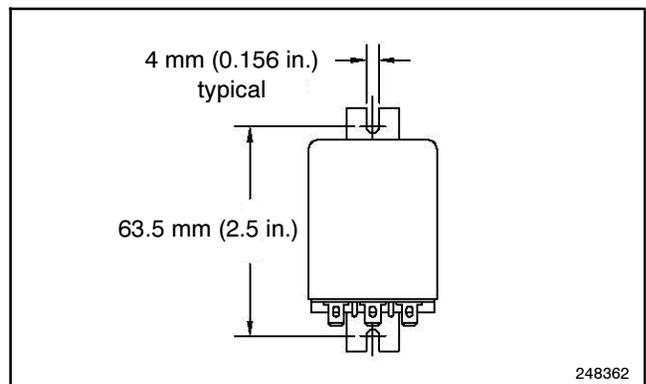

Figure 3 Run Relay Mounting Details and Position
3.3 Mark positions for drilling two holes 63.5 mm (2.5 in.) apart center to center. See Figure 3.